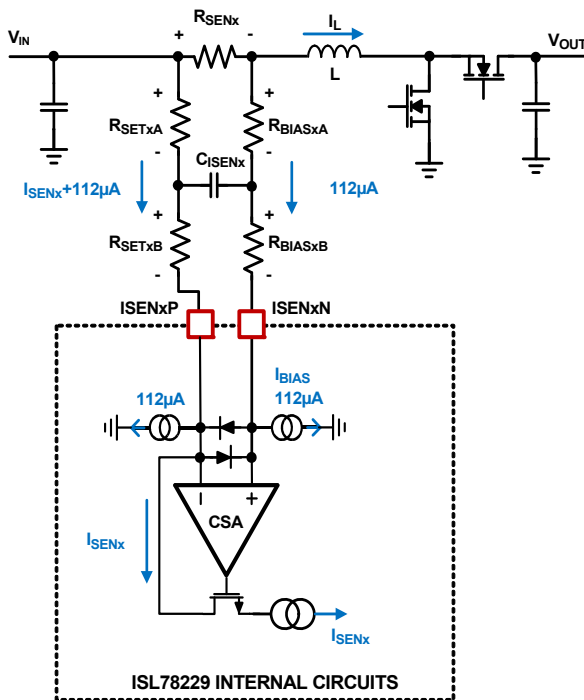

FIGURE 69. CURRENT SENSING BLOCK DIAGRAM
The ISL78229 peak current control architecture senses the inductor current continuously for fast response. A sense resistor is placed in series with the power inductor for each phase, and the ISL78229 Current Sense Amplifiers (CSA) continuously sense the respective inductor current as shown in Figure 69 on page 32 by sensing the voltage signal across the sense resistor R_{SENx} (where “x” indicates the specific phase number and same note applied throughout this document). The sensed current for each active phase is used for peak current mode control loop, phase current balance, individual phase cycle-by-cycle peak current limiting (OC1), individual phase overcurrent fault protection (OC2), input average Constant Current (CC) control and average overcurrent protection (OC_AVG), diode emulation, and phase drop control. The internal circuitry shown in Figure 69 represents a single phase. This circuitry is repeated for each phase.
The RC network between R_{SENx} and ISENxP/N pins as shown in Figure 69 is the recommended configuration. The ISENxP pin should be connected to the positive potential of the R_{SEN_CHx} through resistor R_{SETx} , where in Figure 69 R_{SETx} is composed by R_{SETxA} plus R_{SETxB} . R_{SET} is used to set the current sense gain externally.
Because there is a 112 μ A bias current sinking to each of the ISENxP and ISENxN pins, R_{BIASx} with the same value to R_{SETx} should be placed between the ISENxN pin to the low potential of the R_{SENx} , where in Figure 69 R_{BIASx} is composed by R_{BIASxA} plus R_{BIASxB} .
It is recommended to have $R_{SETxA} = R_{BIASxA}$ and $R_{SETxB} = R_{BIASxB}$, and insert a capacitor (C_{ISENx}) between them as shown in Figure 69. This forms a symmetric noise filter for the small current sense signals. The differential filtering time constant equals to $(R_{SETxA} + R_{BIASxA}) \cdot C_{ISENx}$. This time constant is typically selected in range of tens of ns depending on the actual noise levels.